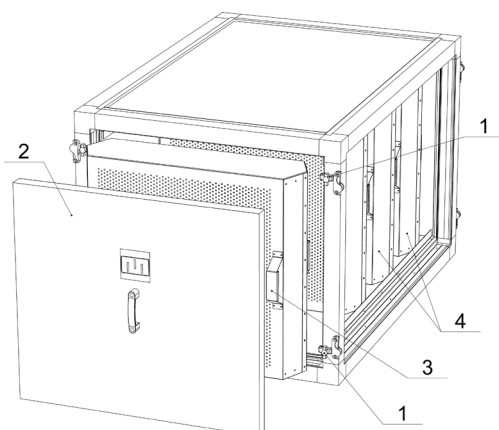
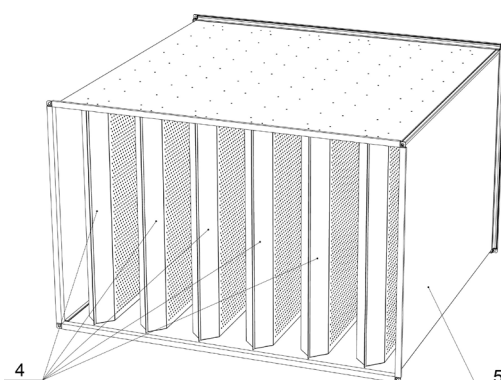

Figure 8.2.1. Sound attenuator section.
Figure 8.2.2. Duct sound attenuator.
4. Sound attenuators available as removable baffles inside casing (Figure 8.2.1) or as ductworks attenuators (Figure 8.2.2).